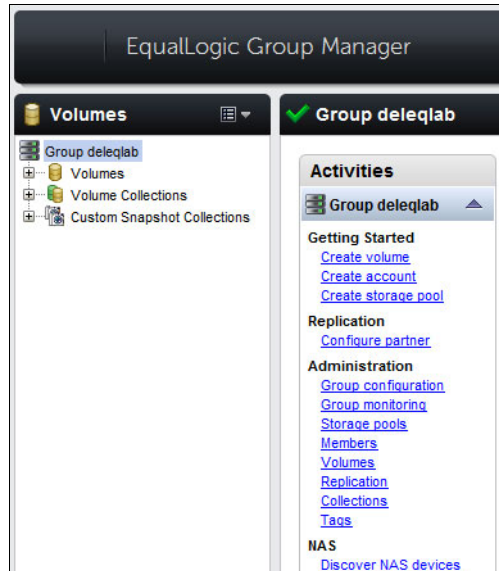

Figure 14-13 Creation of the volume on the Dell system
2. Click **Volumes**. In the Activities window, click **Create volume**, as shown in Figure 14-13.